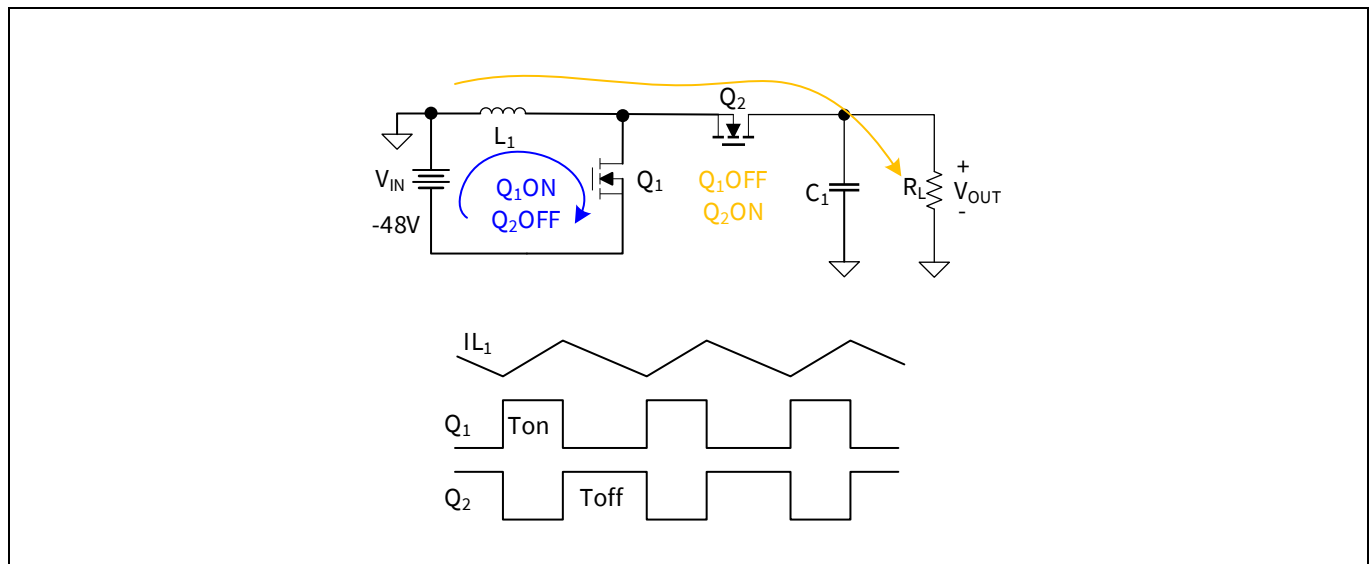

Figure 4 Inverted buck-boost converter
The simplified inverted buck-boost circuit is shown in **Figure 4**. Q_1 is the control FET, Q_2 is the SR FET. Q_1 and Q_2 turn on alternately.
The Q_2 in **Figure 4** is the synchronous rectifier (SR) MOSFET. In continuous conduction mode (CCM), where the inductor current is always above zero, the current in Q_2 always flows from source to drain. That means Q_2 stays on as long as the current flows through the body diode, no matter the Q_2 gate status. Q_2 only turns off when Q_1 turns on and negative voltage applies to the source of Q_2 . This causes reverse recovery current to flow from Q_2 to Q_1 , and creates high switching loss in Q_1 . The loss associated with reverse recovery in a buck-boost converter can be estimated by the following equation: